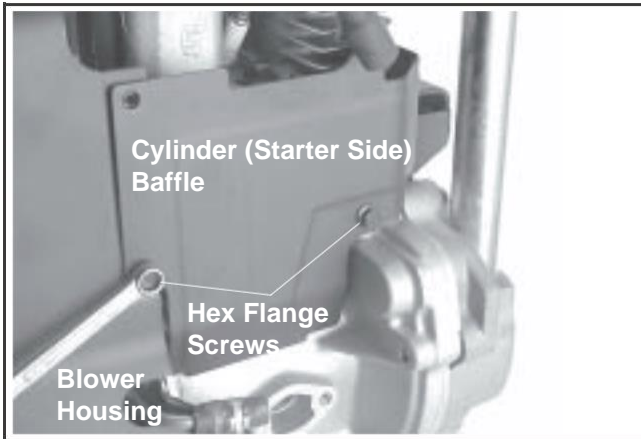

Figure 11-40. Installing Cylinder (Starter Side) Baffle.
2. Install the grommet around the high tension lead. Insert the grommet into the slot in the blower housing. Install the blower housing and baffles using hex flange screws. See Figure 11-40 and 11-41.